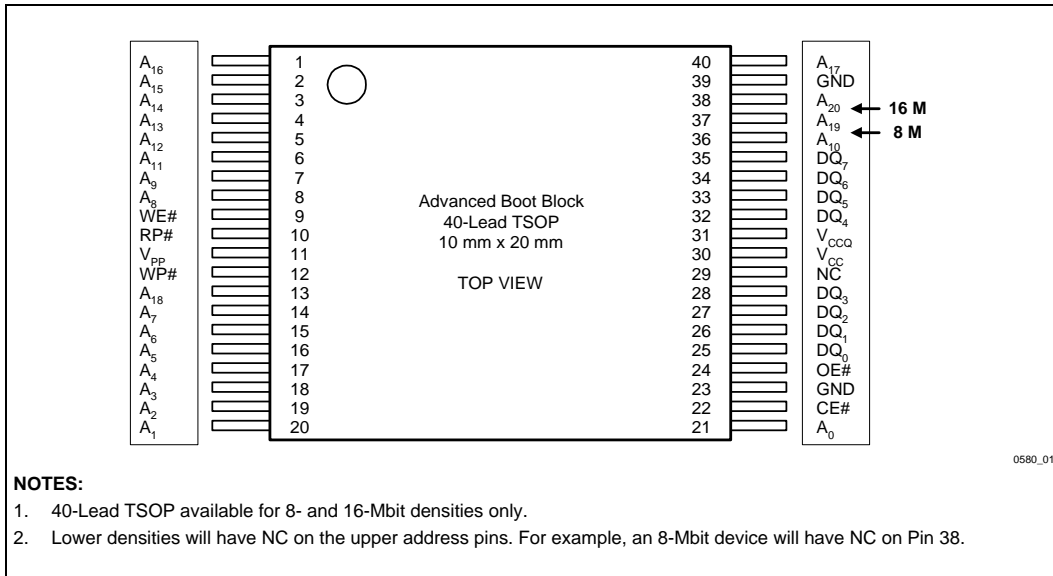
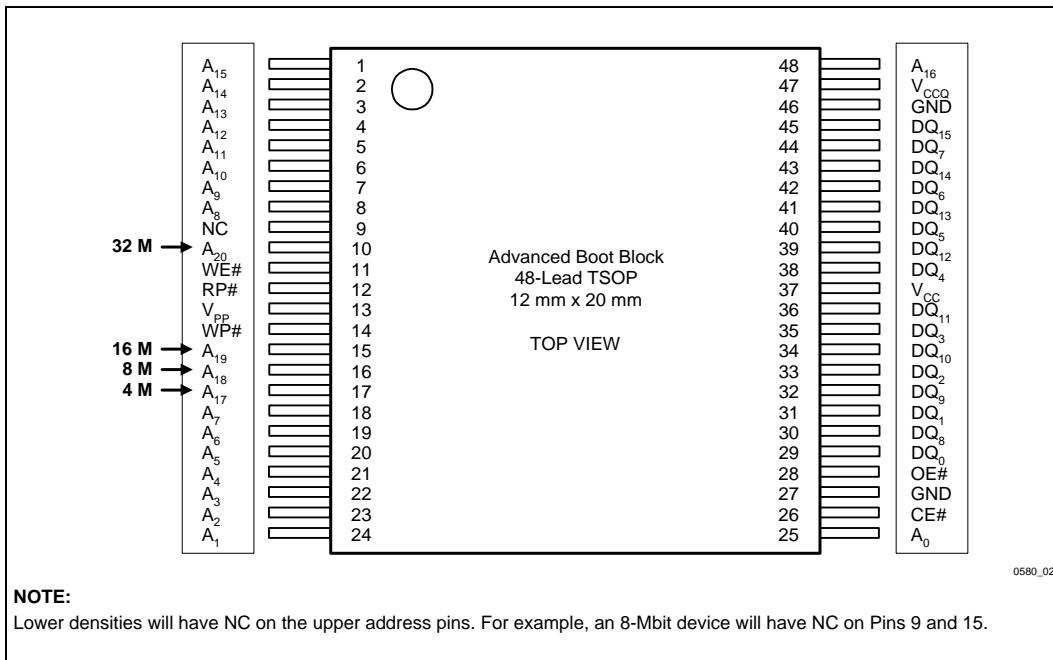
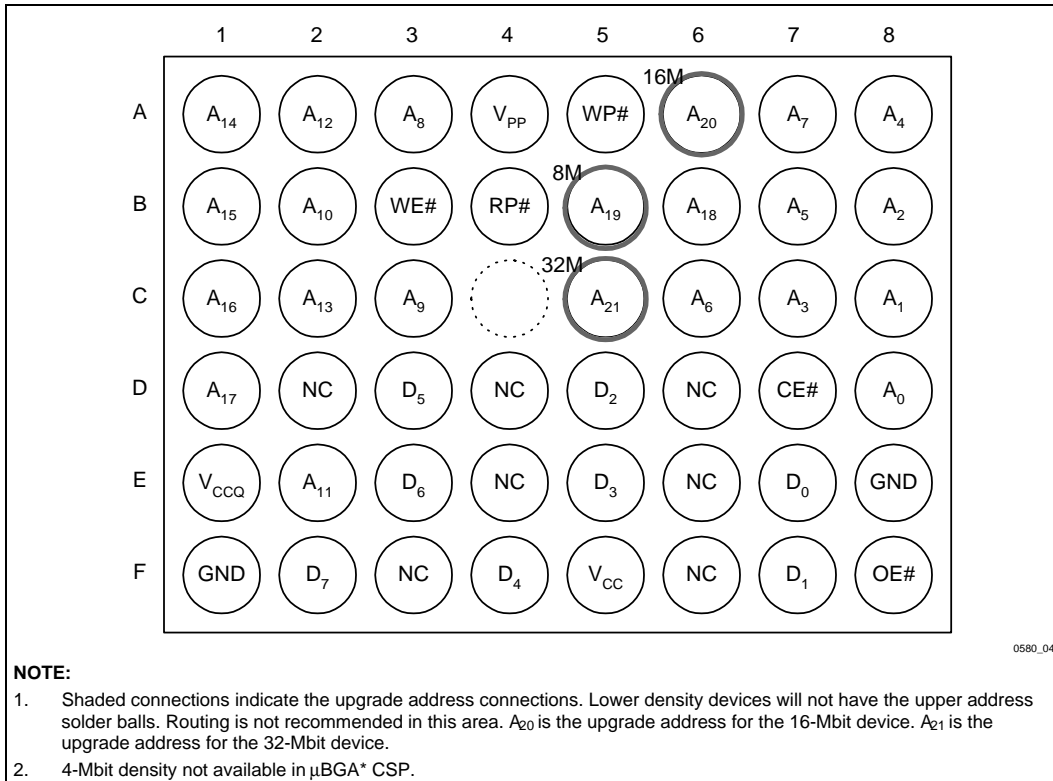
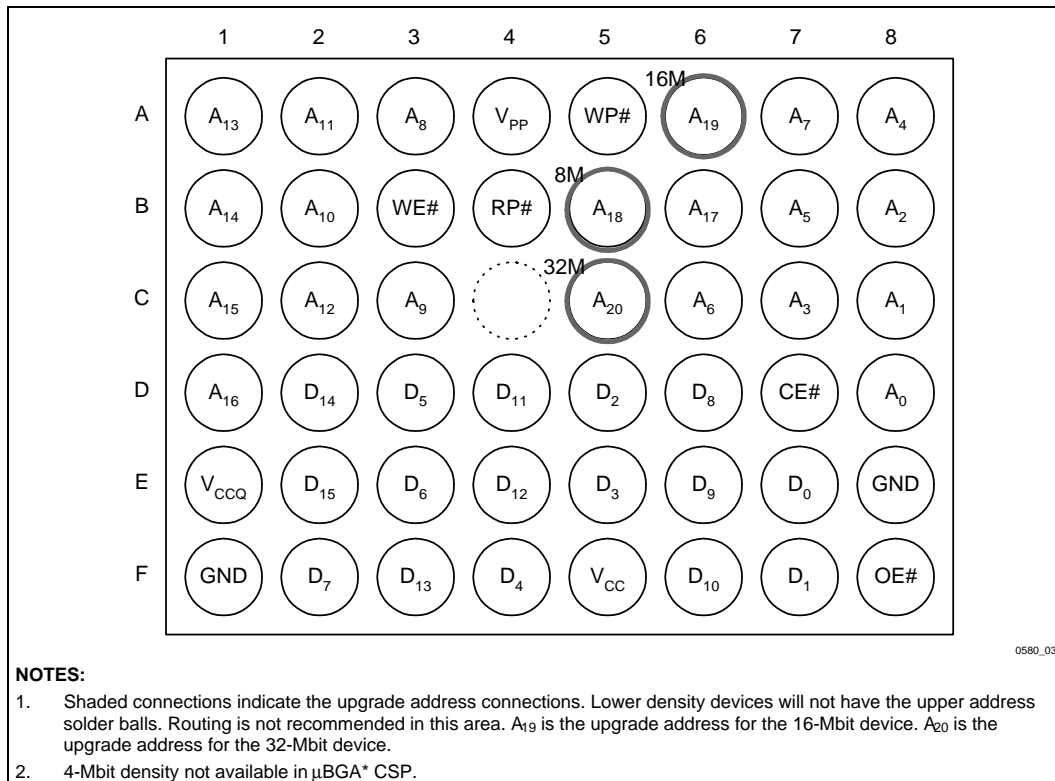

Figure 1. 40-Lead TSOP Package for x8 Configurations
Figure 2. 48-Lead TSOP Package for x16 Configurations
Figure 3. x8 48-Ball μBGA\* Chip Size Package (Top View, Ball Down)
Figure 4. x16 48-Ball μBGA\* Chip Size Package (Top View, Ball Down)
-005	<p>µBGA package diagrams corrected (Figures 3 and 4)</p> <p>IPPD test conditions corrected (Section 4.4)</p> <p>32-Mbit ordering information corrected (Section 6)</p> <p>µBGA package top side mark information added (Section 6)</p>
- $V_{CCQ}$  input of 1.65 V–2.5 V on all I/Os. See Figures 1 through 4 for pinout diagrams and  $V_{CCQ}$  location
The Smart 3 Advanced Boot Block flash memory is available in 40-lead TSOP (x8, Figure 1), 48-lead TSOP (x16, Figure 2) and 48-ball  $\mu$ BGA packages (x8 and x16, Figure 3 and Figure 4 respectively). In all figures, pin changes necessary for density upgrades have been circled.